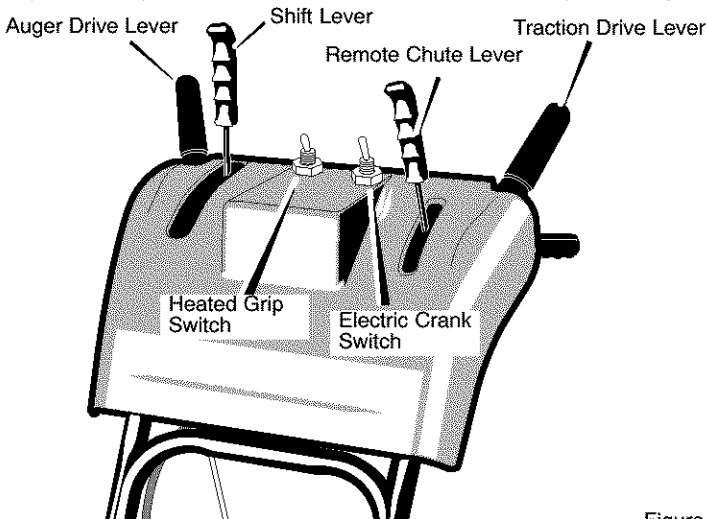

Figure 14
1. To stop throwing snow, release the **auger drive lever**. See Figure 14.
1. Push down the auger driver lever (**right hand**). See Figure 14.
When the temperature falls below 32 degrees, use the heated grips to keep your hands warm. Move the **heated grip switch** to the ON position (see Figure 14). It will take a couple of minutes for the grips to become warm. Because heated grips can become very warm, we recommend that you wear gloves. If you notice that the grips are too warm, turn off heated grips.